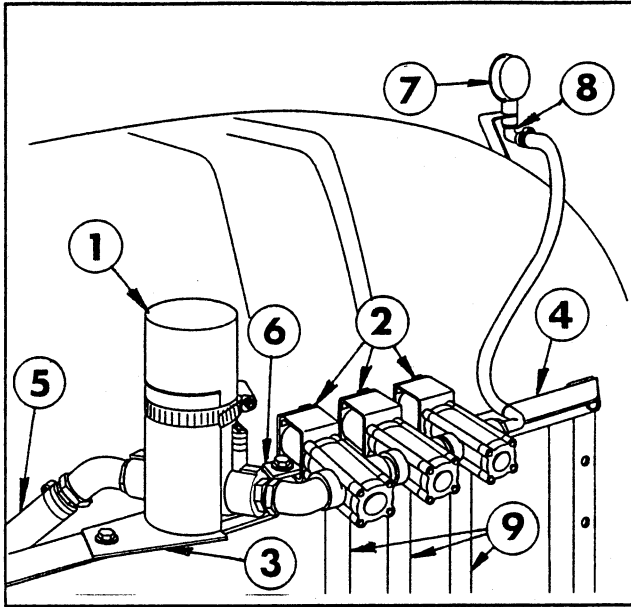

FIG. 13
2. Connect the Motorized Control Valve and the Solenoid Assembly by screwing the two together. See FIG. 13.
4. Loosely attach the Control Valve Bracket to the Cross Support with two (2) 5/16" x 3/4" cap screws, flat washer and nut.
5. Slide the Solenoid Mounting Strap into position and mount the complete Control Valve and Solenoid Assembly to the Cross Support as shown in FIG. 13. Use four 5/16" x 1" hex hd cap screws with four washers placed below the screw heads, two between the strap and the Cross Support and four below the Cross Support under the nuts.